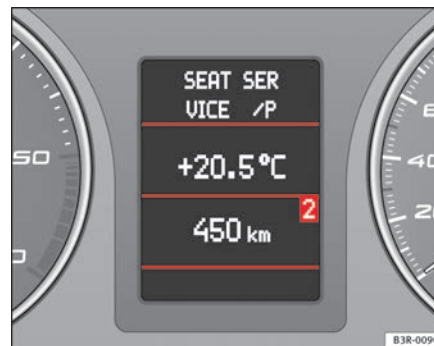

Fig. 64 Driver information system
- Press the **(MODE)** button **B** repeatedly to switch between modes, which are then displayed in the driver information system ⇒ fig. 64.